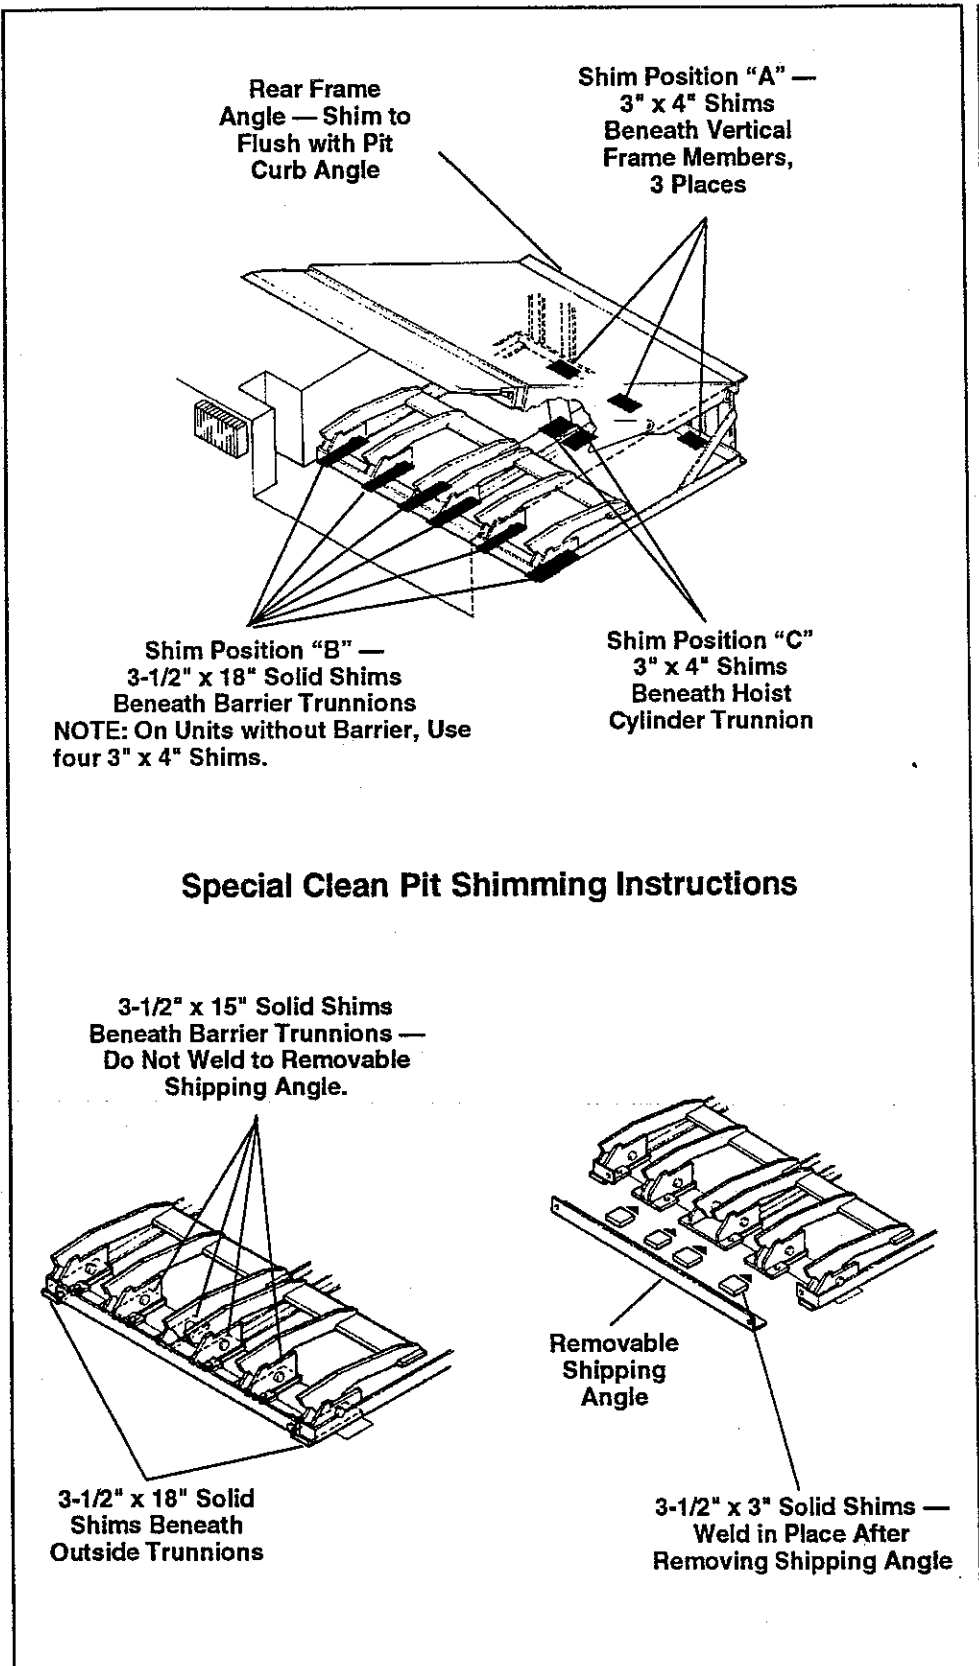

Fig. 1. Shim Locations and Recommended Sizes
3. Check the pit dimensions with the certified Pit Drawing attached to this manual. Make sure that the walls of the pit are plumb and square with no bulges. Verify and record depth of pit at each end of imbedded channel and at the rear of the pit, (refer to Figure 1, Page 4, shim locations "A" and "B").
**NOTE:** If your dock leveler is equipped with a barrier, shims used under the barrier (shim location "B") MUST be of single thickness stock and must be of size shown in Figure 1. Shims MUST NOT be stacked. Thickness of shims can be determined by subtracting 23.75" from measured pit depth. Multiple stacked plates may be used at shim location "B" if unit does not have a barrier. Stacked shims may also be used at shim locations "A" and "C" on all units.
4. Place the shims at positions "A" and "B", Figure 1. Position shims so that the frame will rest firmly on the shims when the unit is lowered into the pit. Pay careful attention to the spacing of the shims for the front angle. This is especially important for the installation of the Clean Pit unit or if the unit is equipped with a hydraulic barrier. Shim so that the dimension from the top of the shims to the dock floor is 23.75".
- A. If unit is equipped with barrier, make sure shim plates are positioned squarely and securely beneath barrier trunnions. Shims in this area must be of single thickness stock, not stacked, and of the size shown in Figure 1.
- B. If unit is not equipped with barrier, make sure shims are spaced as shown in Figure 1. If there is no barrier, shims may be stacked in conventional manner.
19. **CLEAN PIT UNITS ONLY:** Remove all shipping/installation angles. If unit is equipped with a barrier, add 3 1/2" x 3" shims of required thickness to ends of four center trunnion shims. See Figure 1.